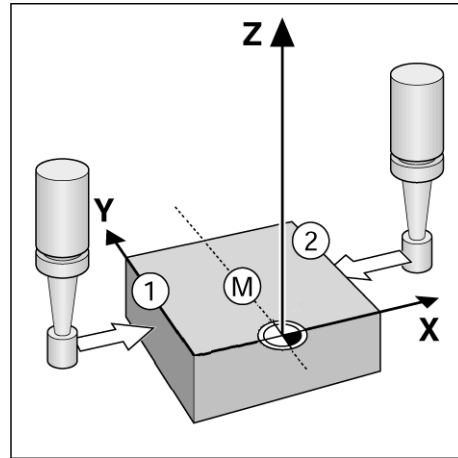
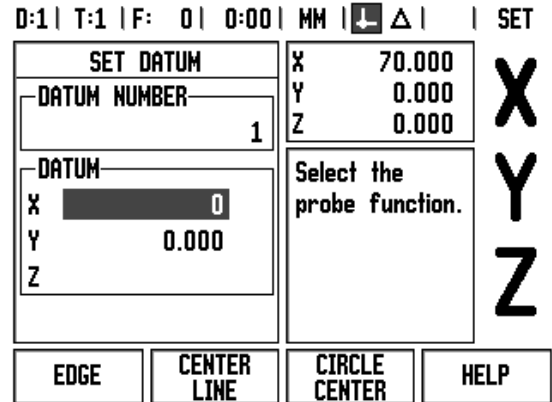

Fig. I.33 Setting centerline between two edges
Fig. I.34
**Example: Set centerline between two workpiece edges as datum. See Fig. I.33 & Fig. I.34.**